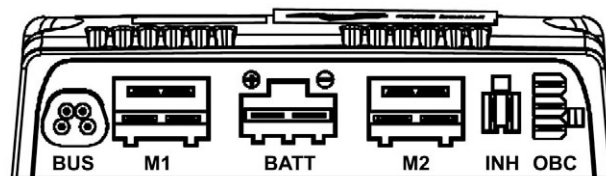

Figure 154. Power Module cable connections (Rnet PM120).
5. Disconnect the electrical connections to the R-net controller, being attentive to their placement: see fig. 154.
2. Reconnect the electrical connections to the R-net controller. See fig. 154.